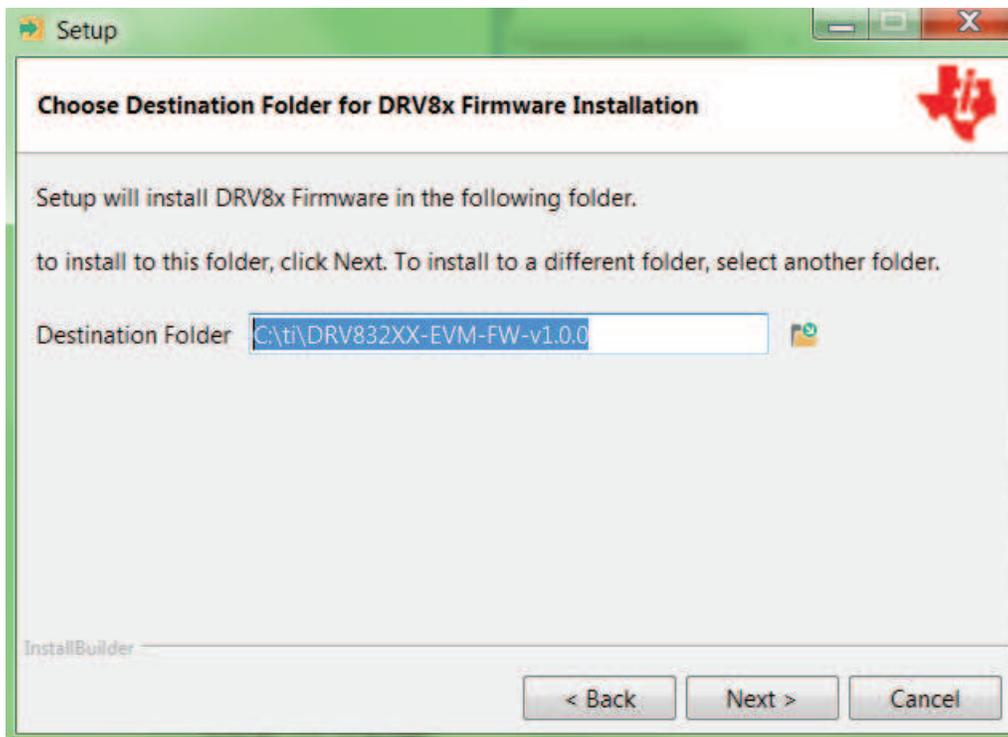

Figure 18. Setup Destination Folder
- Step 5. Choose the destination location for the example CCS projects and the documentation (see Figure 18). This destination can be set to any location in the PC.